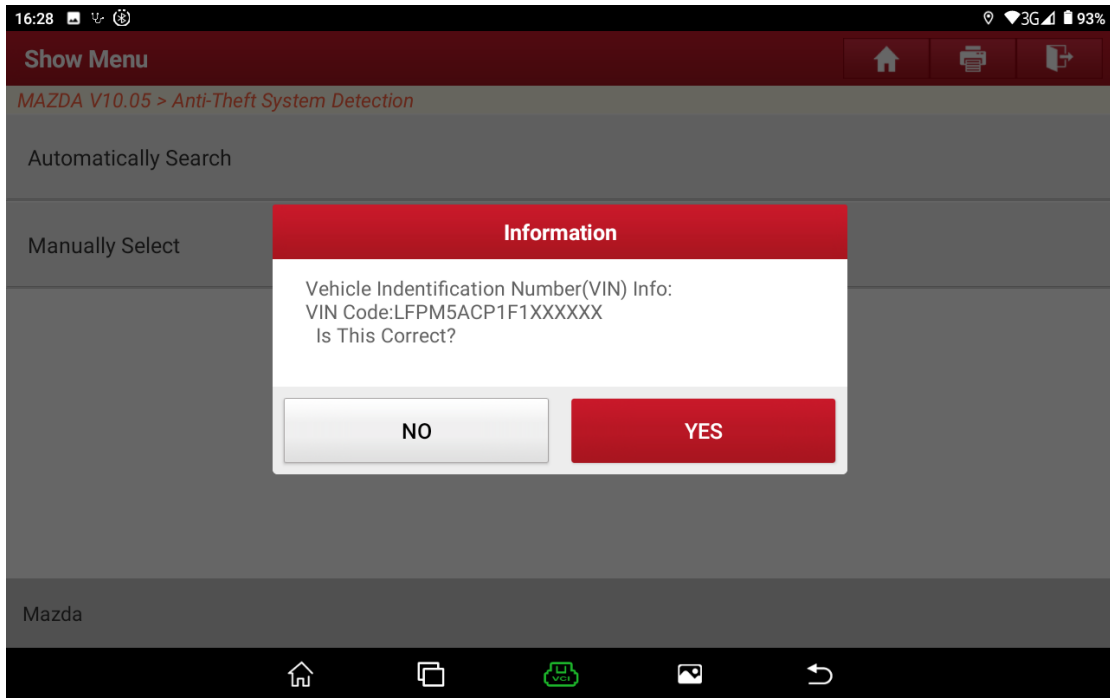

Figure 5
3. Confirm whether the VIN is correct. Choose [No] to manually input the correct VIN or choose [Yes] to access the next step. See Figure 5.